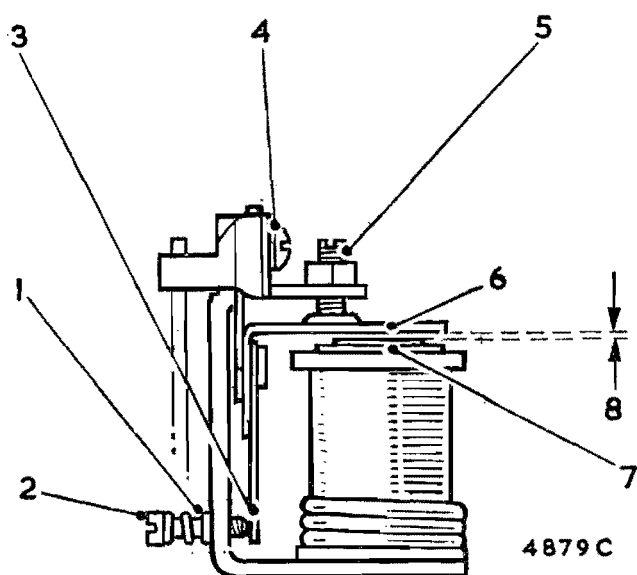

Fig. N.8
Turn the voltage adjusting screw (1) (Fig. N.8) in a clockwise direction to raise the setting or in an anti-clockwise direction to lower the setting. Turn the screw only a fraction of a turn at a time. Repeat as above until the correct setting is obtained.
The mechanical or air gap settings of the regulator shown in Fig. N.8 are accurately adjusted before leaving the Works, and, provided that the armature carrying the moving contact is not removed, these settings must not be tampered with. If, however, the armature has been removed the regulator will have to be reset. To do this proceed as follows.